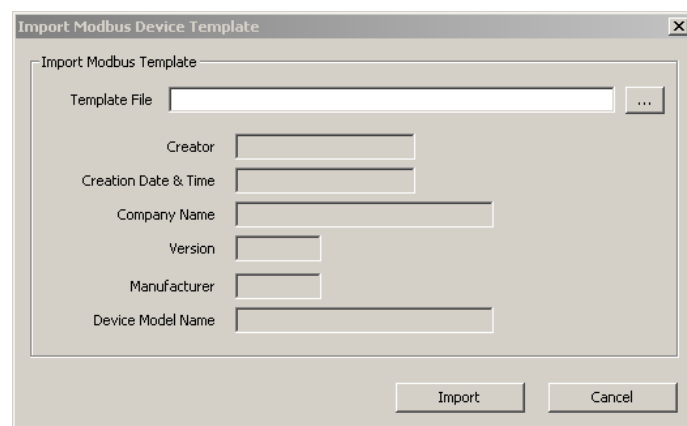

Figure 150 Import Modbus Device Template dialog.
3. Click on the **Create From Template** button. This opens the **Import Modbus Device Template** dialog shown in Figure 150.
3. Click on the **Create with DP** button. This opens the **Import Modbus Device Template** dialog shown in Figure 150.